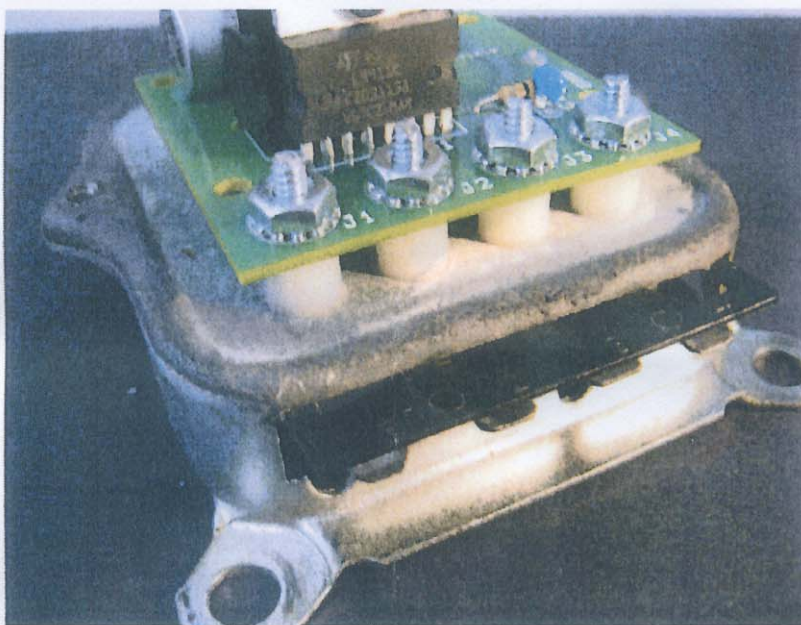

Figure 4
2. Install the four 6-32 x $\frac{3}{4}$ " screws in the remaining holes on the base. On the top side, place a white nylon spacer onto each screw, mount the circuit board onto the four screws, and install the remaining Keps nuts onto the screws. Tighten securely (see Figure 4).